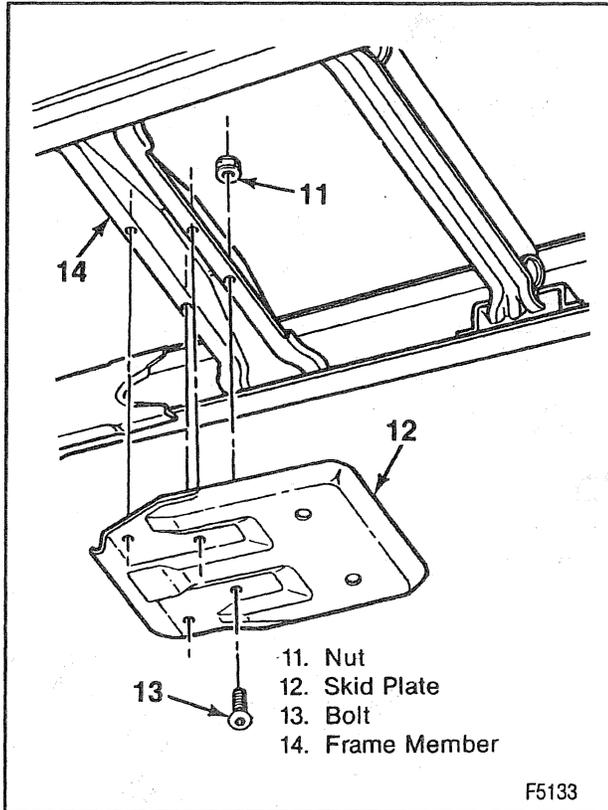

Figure 3—Skid Plate Replacement
**↔ Remove or Disconnect (Figure 3)**
**↔ Install or Connect (Figure 3)**